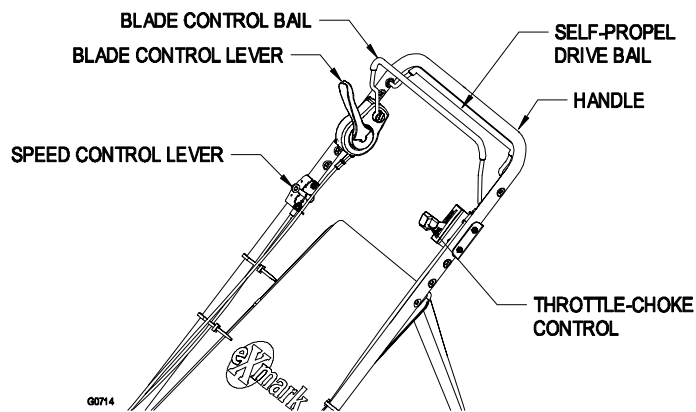

FIGURE 1
Located on the upper handle as shown in Figure 1. **When the blade control bail is depressed, the system senses that the operator is in the normal operator's position.**
Located on the upper handle as shown in Figure 1. When the self-propel drive bail is squeezed, the unit will move forward at the speed set on the speed control lever. When this bail is released the unit will stop moving.
The throttle-choke control is located on the left side of the handles as shown in Figure 1. The lever is used to control engine speed. Moving the lever to the full forward  (**Choke**) position will place the lever in the choke position. The choke aids in starting a cold engine. Moving the throttle control forward will increase engine speed and moving it to the rear will decrease engine speed.
The blade control lever is located on the right side of the handle next to the Blade Control Bail as shown in Figure 1. Moving the blade control lever into the full forward position while depressing the blade control bail engages the blade. Releasing the blade control bail automatically disengages the blades.
The ground speed control is located on the right side of the handles below the blade engagement lever as shown in Figure 1. The ground speed control has three settings which control the ground speed of the mower.
The lawn mower has three ground speeds. **1** is slow, **2** is medium, and **3** is fast (See Figure 1 for speed control lever location).
- c) Squeeze the drive bail against the handle (See Figure 1).
- b) Squeeze the blade control bail against the handle (Figure 1).
- c) Move the blade control lever to the full forward **Latch** position. Blades should engage (Figure 1).